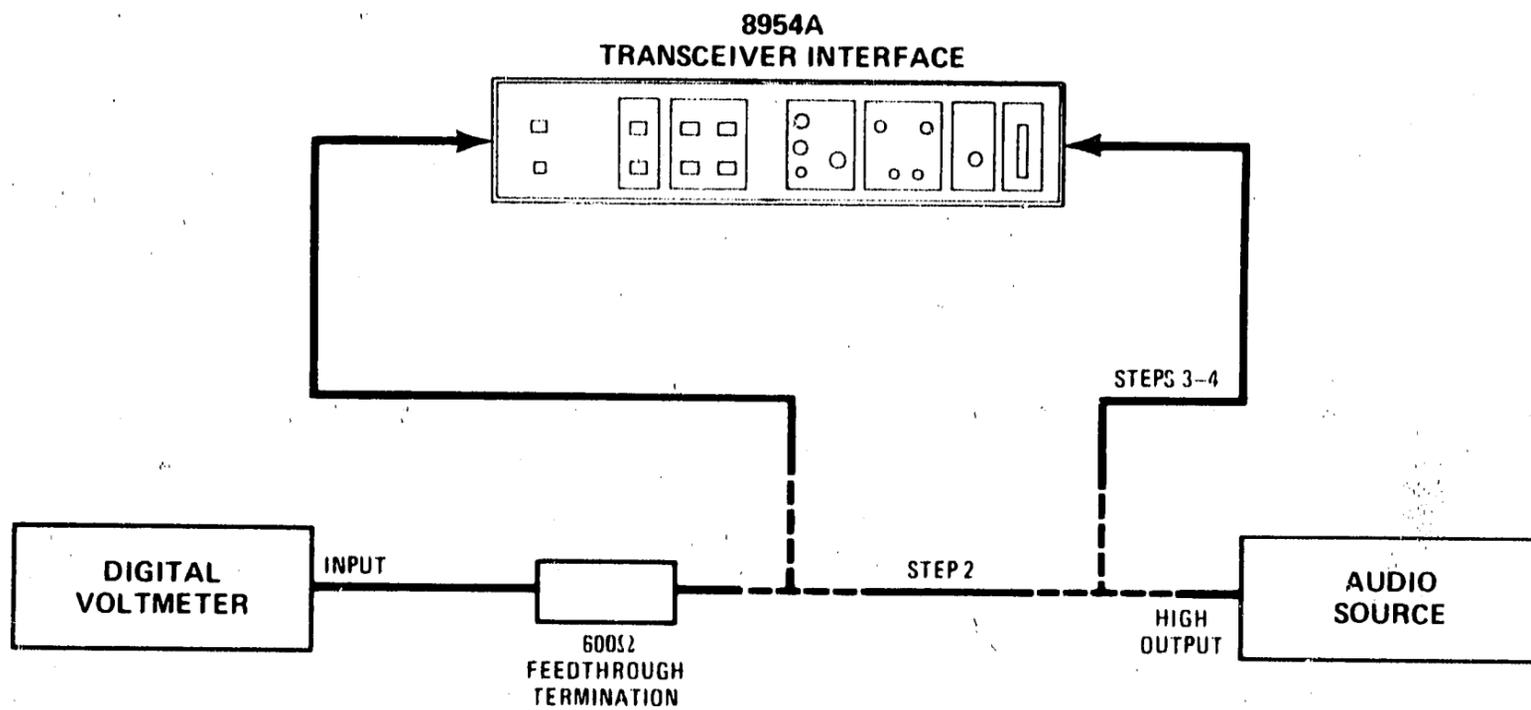

Figure 4-3. Audio Insertion Loss Test Setup
3. Connect the equipment as shown in Figure 4-3.